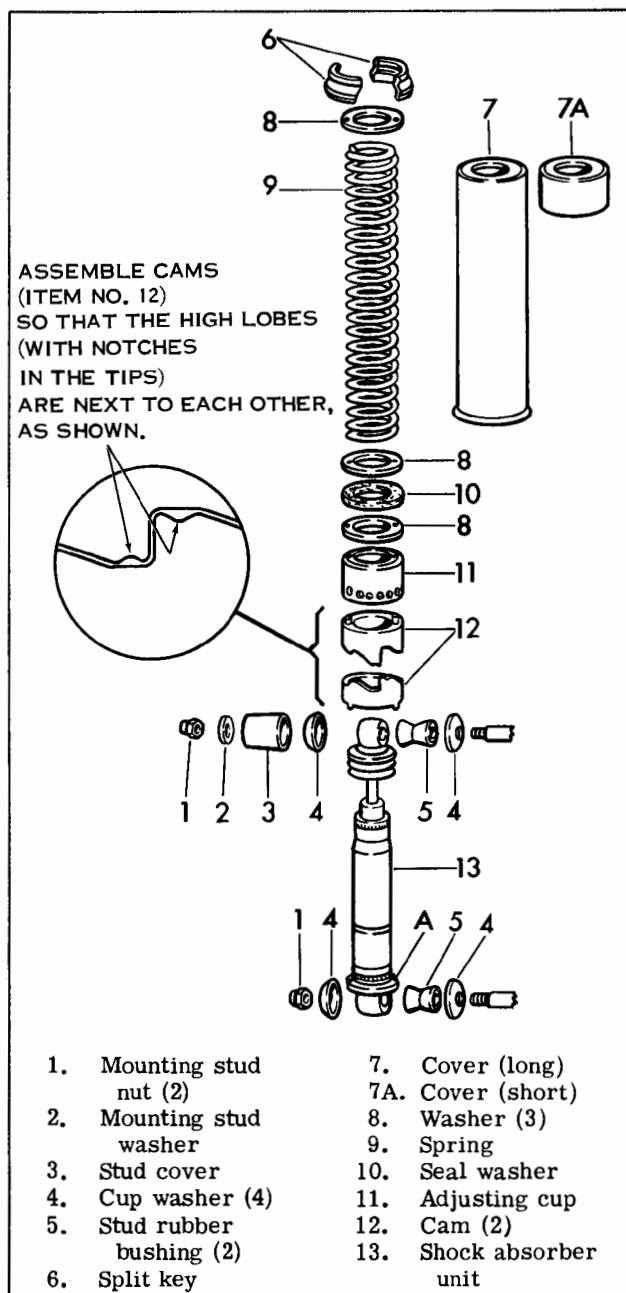
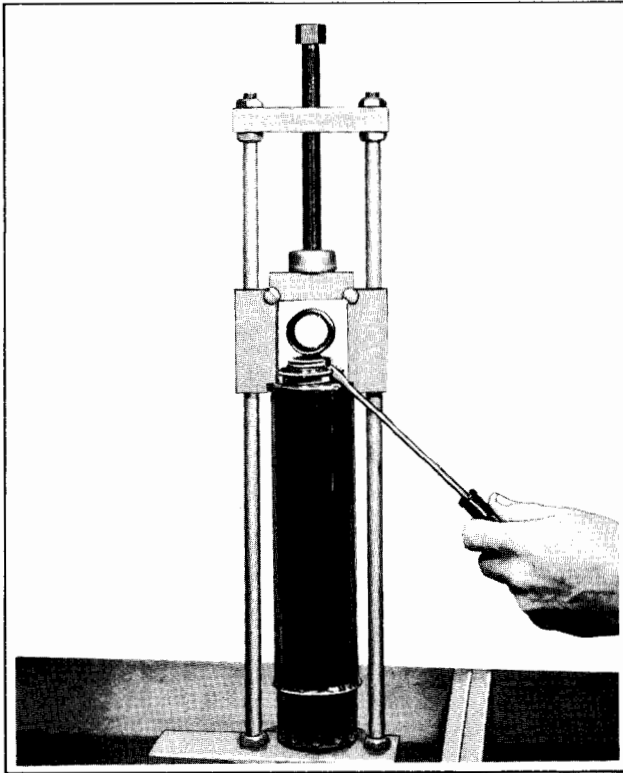

Figure 2-35. Later Rear Shock Absorber - Exploded View
Figure 2-36. Disassembling Shock Absorber
DISASSEMBLING REAR SHOCK ABSORBER (Figure 2-35)
Remove top and bottom mounting stud nut (1), mounting stud washer (2), upper stud cover (3) and cup washer (4). Slip shock absorber assembly off upper and lower studs. Push rubber bushings (5) from shock absorber mounting eyes. Place shock absorber in Rear Shock Absorber Tool, Part No. 97010-52A (see Figure 2-82) with split key (6) up. Compress absorber spring enough to remove each half of split key (6) from flange on shock eye as shown in Figure 2-36. Release spring compression and remove absorber assembly from tool. Remaining items can be removed in order shown in Figure 2-35.
Apply a thin coat of grease to all surfaces of both cams. Note that cams (12) are identical and be sure to position cam lobes correctly as shown in Figure 2-35 inset. Place assembly in compressor tool and compress spring enough to install key halves (6). Release spring compression. Keys will lock into place in inside diameter of covers 7 or 7A.
IMPORTANT: Install each shock absorber on motorcycle with slot in cam support (A, Figure 2-35) facing toward wheel.